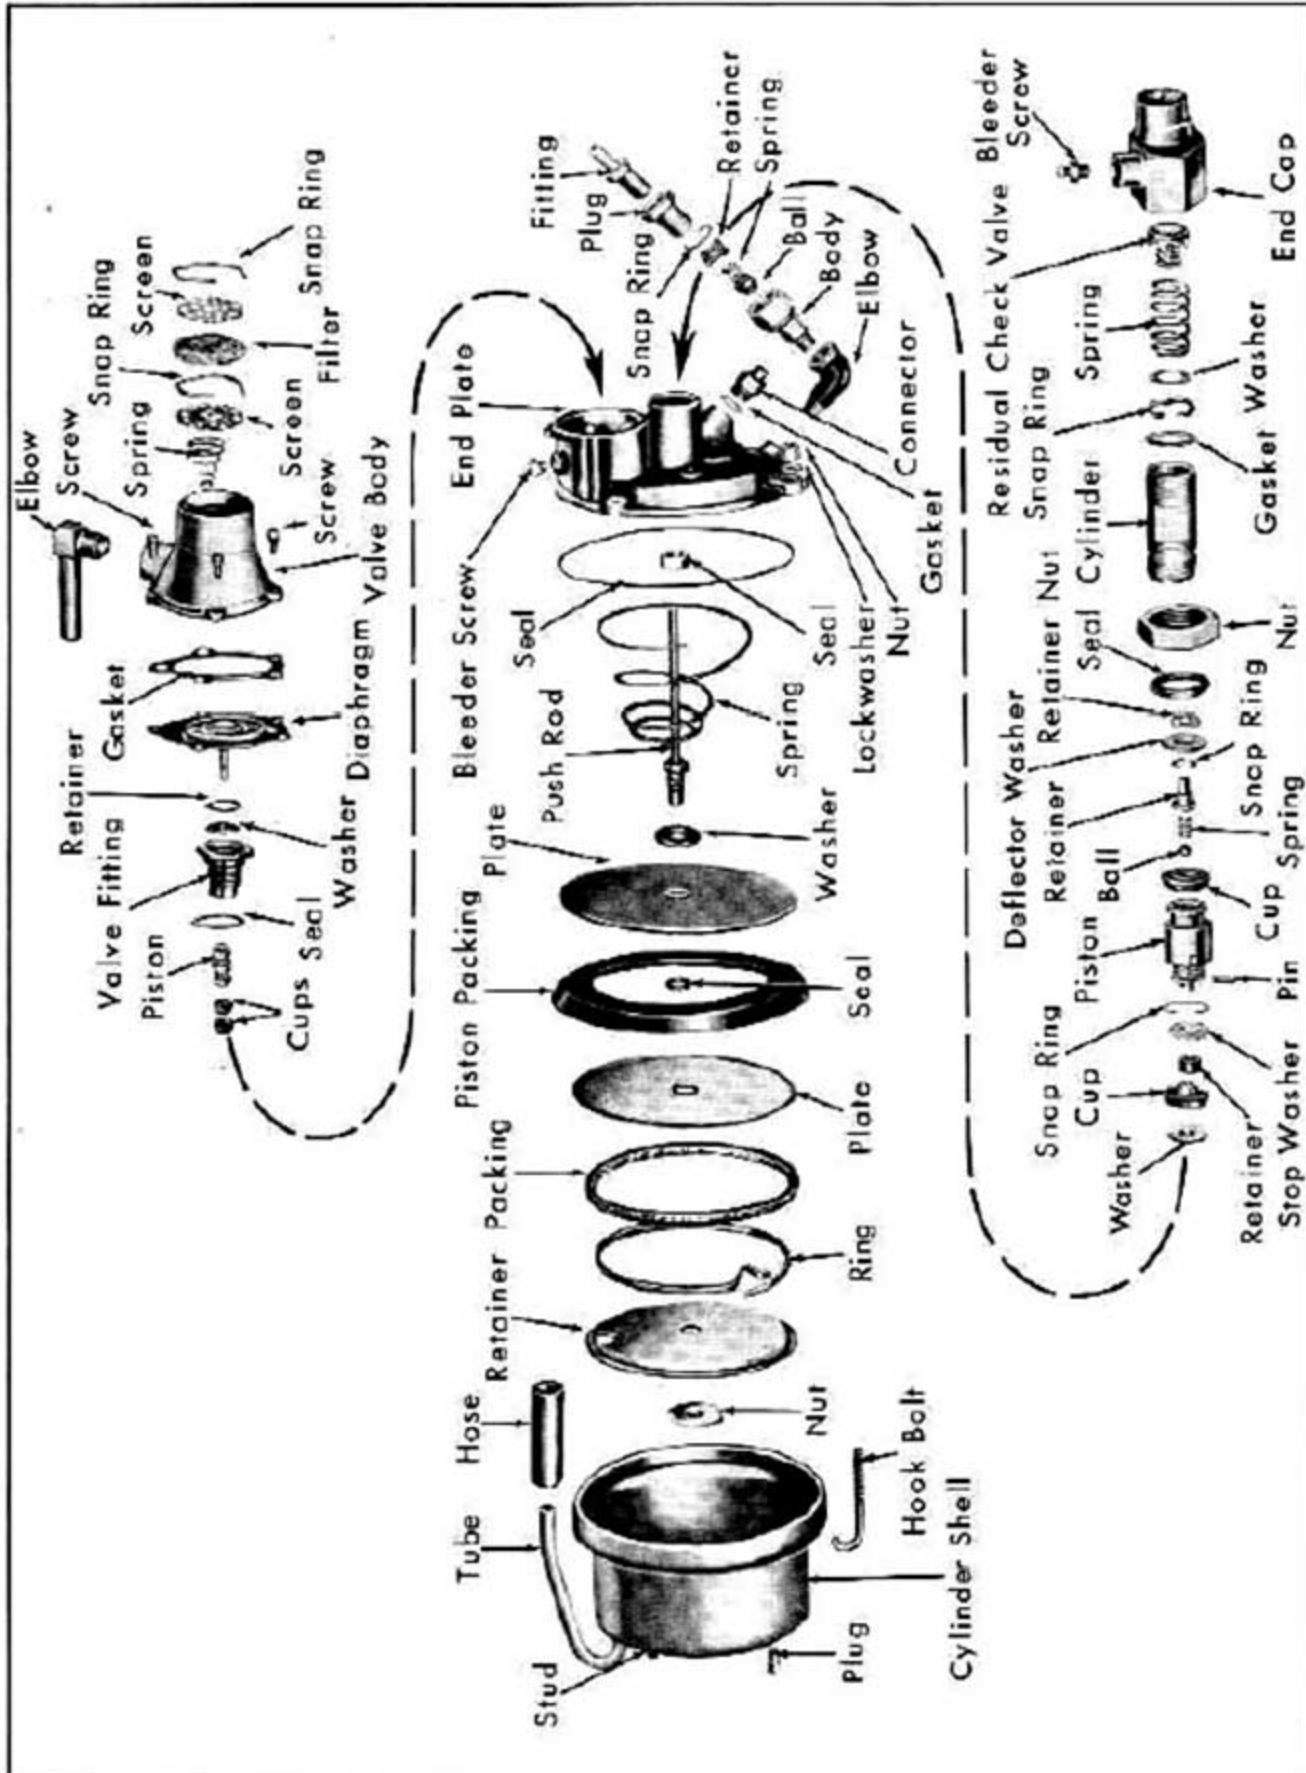

Fig. 9-2 Power Brake Disassembled
1. Loosen hydraulic cylinder nut and unscrew hydraulic cylinder assembly from the end plate, Fig. 9-2.